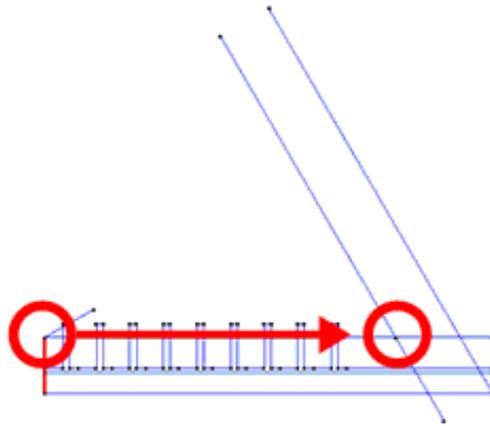

Figure 11. Copy of the vertical line segment starting at the origin of coordinates
- 7 . From the **Copy** window, choose **Lines** and **Translation**. As the first and second points of the translation, enter the points indicated in Figure 11. Click **Select** and select the vertical line segment starting at the origin of coordinates. Press **ESC**.